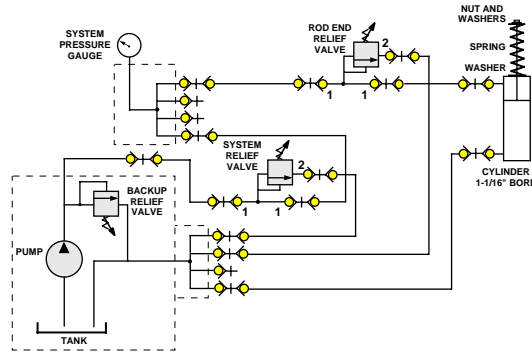

Fig. 2.1.13
13. Attach the load spring assembly to the rod of the hydraulic cylinder as shown in Figure 2.1.13.